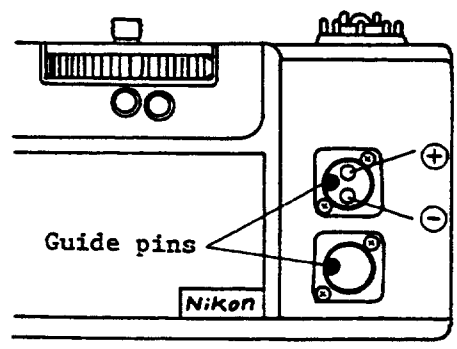

fig. 1-1
- Pay attention to the direction to be installed. See fig. 1-1.